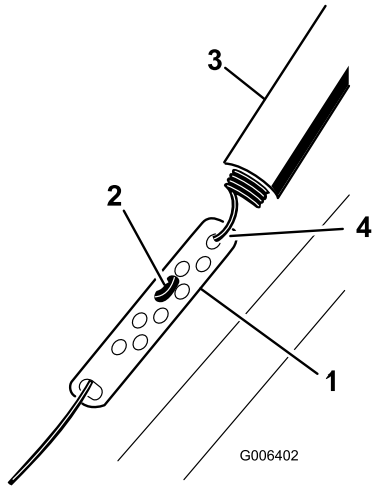

Figure 16
- Slide up the spring cover and unhook the spring from the adjuster link (Figure 16).